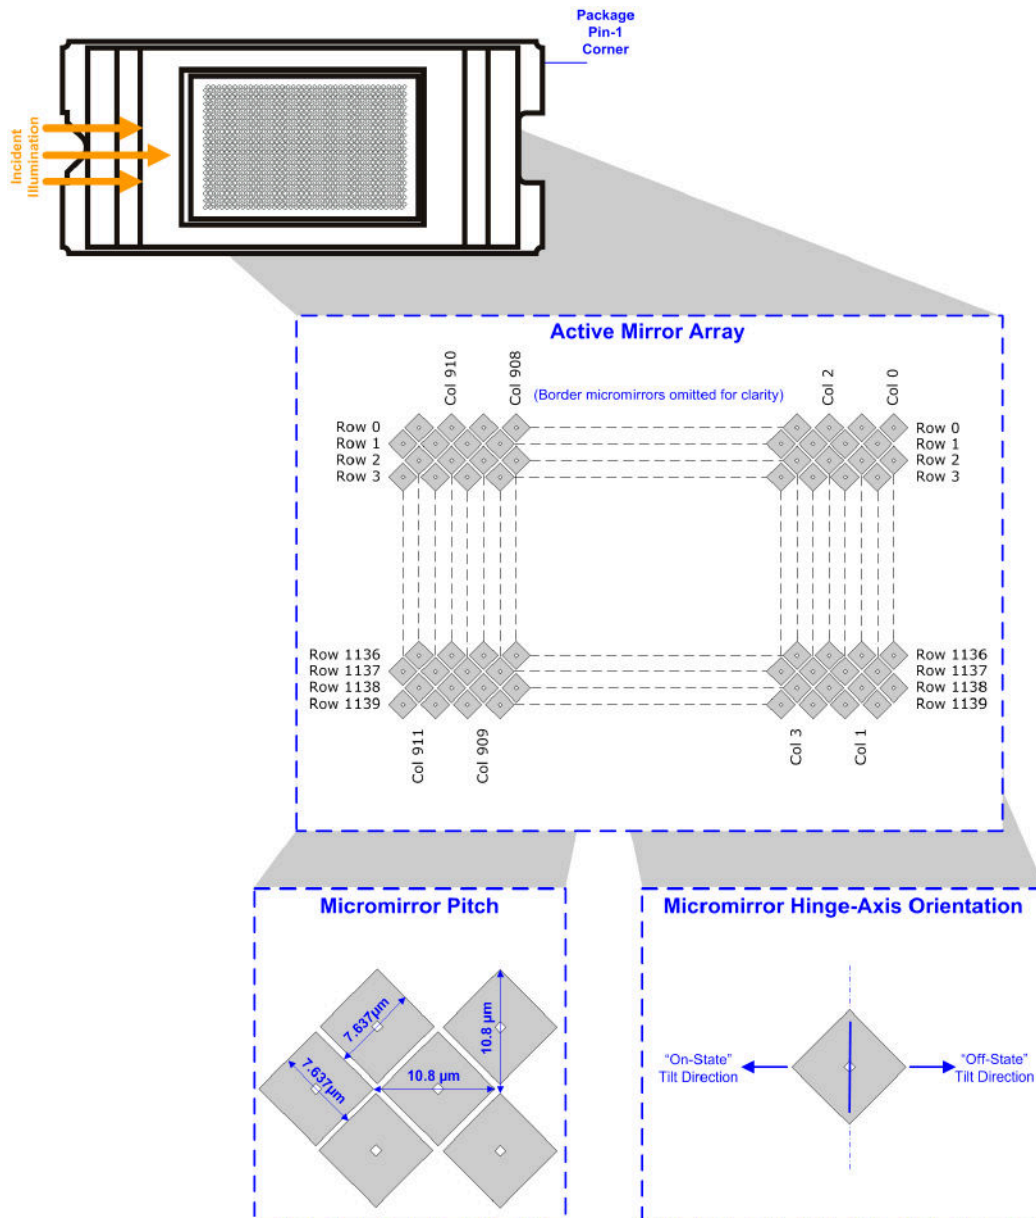
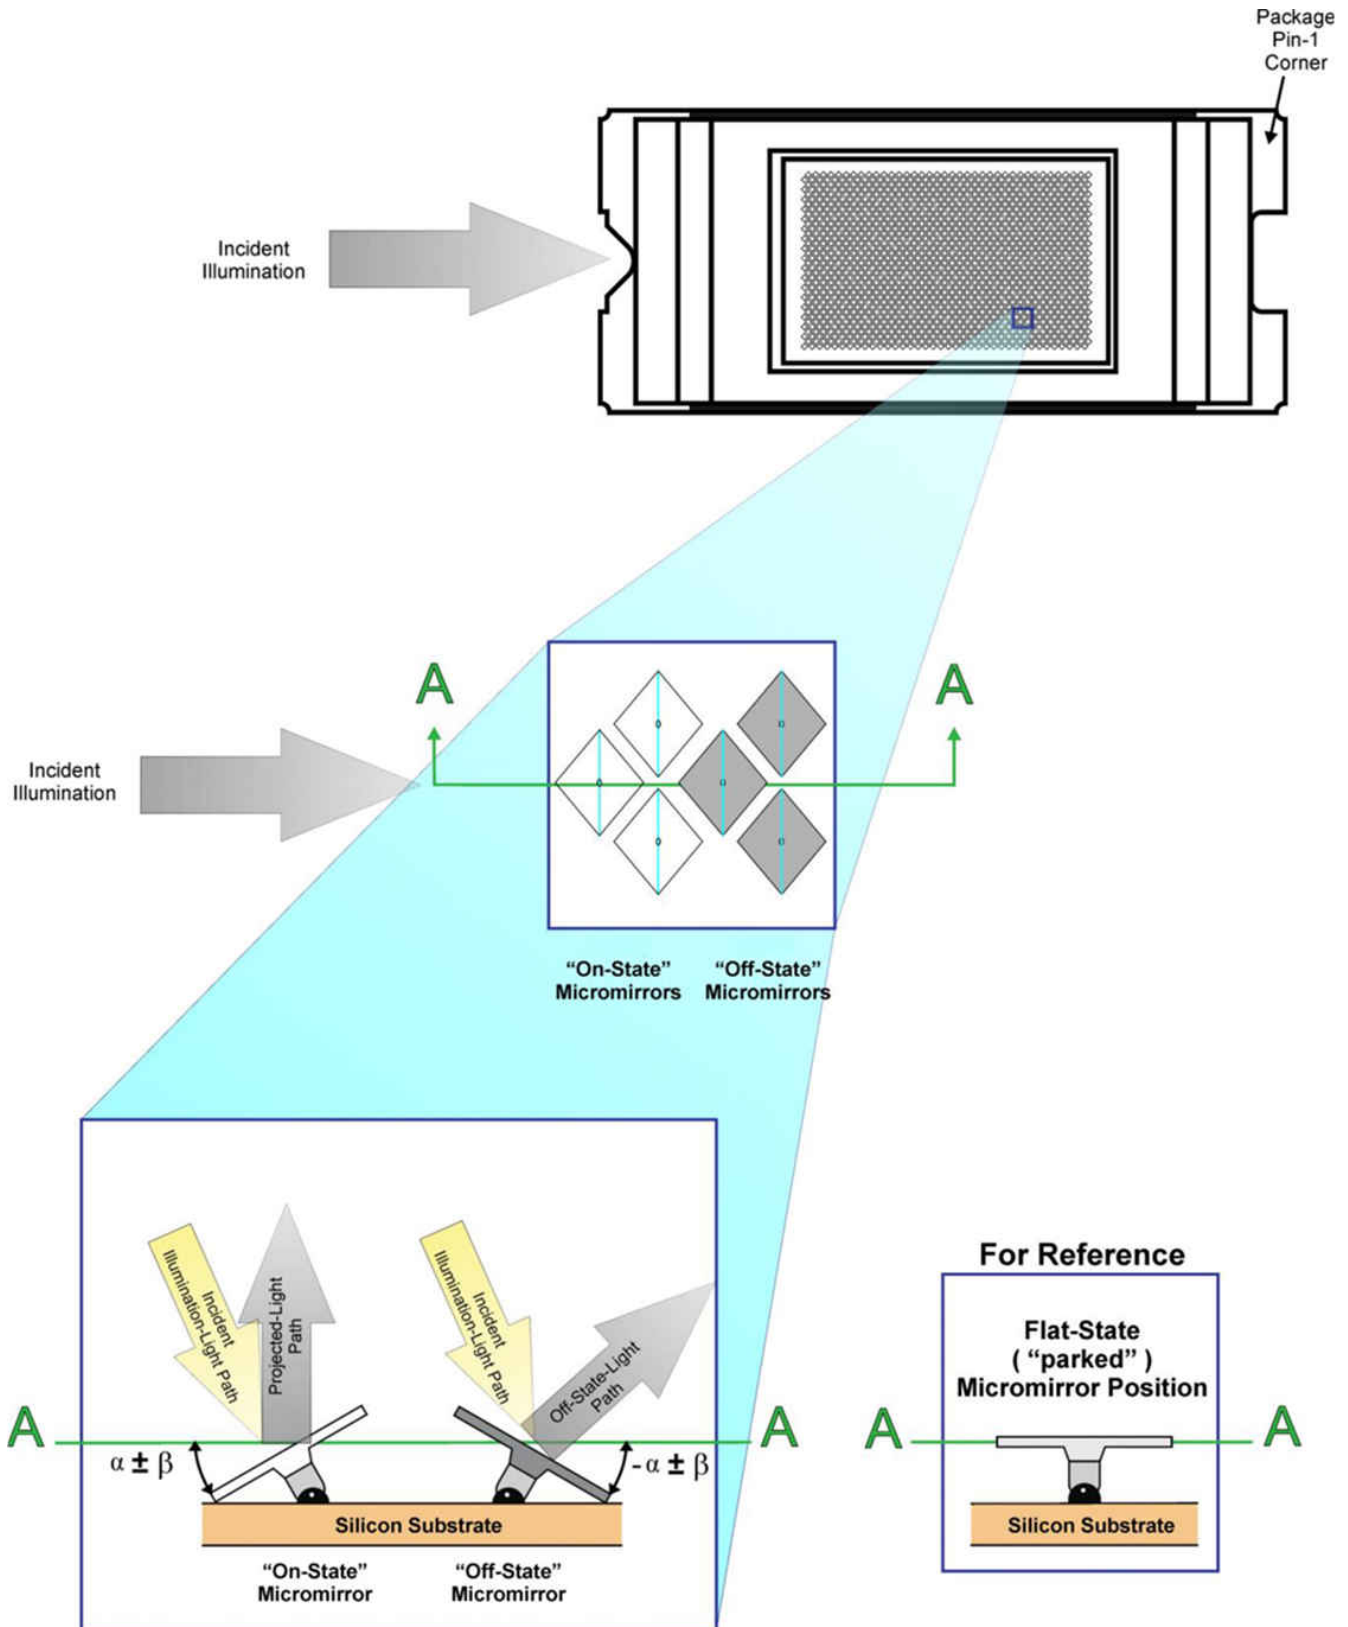

Figure 8-1. Micromirror Array, Pitch, and Hinge-Axis Orientation
Figure 8-2. Micromirror Landed Positions and Light Paths
- (1) The mirrors that form the array border are hard-wired to tilt in the -12° (“Off”) direction once power is applied to the DMD (see Figure 8-1 and Figure 8-2).
- (2) See Figure 8-1.
- (1) Measured relative to the plane formed by the overall micromirror array.
- (2) Micromirror crossover time is primarily a function of the natural response time of the micromirrors.
- (3) *Parking* the micromirror array returns all of the micromirrors to a relatively flat (0°) state (as measured relative to the plane formed by the overall micromirror array).
- (4) When the micromirror array is *parked*, the tilt angle of each individual micromirror is uncontrolled.
- (5) Additional variation exists between the micromirror array and the package datums.
- (6) When the micromirror array is *landed*, the tilt angle of each individual micromirror is dictated by the binary contents of the CMOS memory cell associated with each individual micromirror. A binary value of 1 results in a micromirror *landing* in an nominal angular position of +12°. A binary value of 0 results in a micromirror *landing* in an nominal angular position of -12°.
- (7) Represents the *landed* tilt angle variation relative to the nominal *landed* tilt angle
- (8) Represents the variation that can occur between any two individual micromirrors, located on the same device or located on different devices.
- (9) For some applications, it is critical to account for the micromirror tilt angle variation in the overall system optical design. With some system optical designs, the micromirror tilt angle variation within a device may result in perceivable non-uniformities in the light field reflected from the micromirror array. With some system optical designs, the micromirror tilt angle variation between devices may result in colorimetry variations or system contrast variations.
- (10) See Figure 8-2.
- (11) Performance as measured at the start of life.
- (12) Measured relative to the package datums B and C, shown in the Package Mechanical Data section in Section 13.
- (13) The nominal DMD total optical efficiency results from the following four components:
(14) The DMD diffraction efficiency and total optical efficiency observed in a specific application depends on numerous application-specific design variables, such as:
Optically, the DLP4500 device consists of 1039680 highly reflective, digitally switchable, micrometer-sized mirrors (micromirrors) organized in a two-dimensional array. The micromirror array consists of 912 micromirror columns by 1140 micromirror rows in diamond pixel configuration (Figure 8-1). Due to the diamond pixel configuration, the columns of each odd row are offset by half a pixel from the columns of the even row.
Each aluminum micromirror is approximately 7.6 microns in size and arranged in row and columns as shown in Figure 8-1. Due to the diamond pixel array of the DMD, the pixel data does not appear on the DMD exactly as it would in an orthogonal pixel arrangement. Pixel arrangement and numbering for the DLP4500 is shown in Figure 8-1.
Each micromirror is switchable between two discrete angular positions: -12° and 12° . The angular positions α and β are measured relative to a 0° flat reference when the mirrors are parked in their inactive state, parallel to the array plane (see Figure 8-2). The parked position is not a latched position. Individual micromirror angular positions are relatively flat, but do vary. The tilt direction is perpendicular to the hinge-axis. The on-state landed position is directed toward the left side of the package (see Figure 8-2).